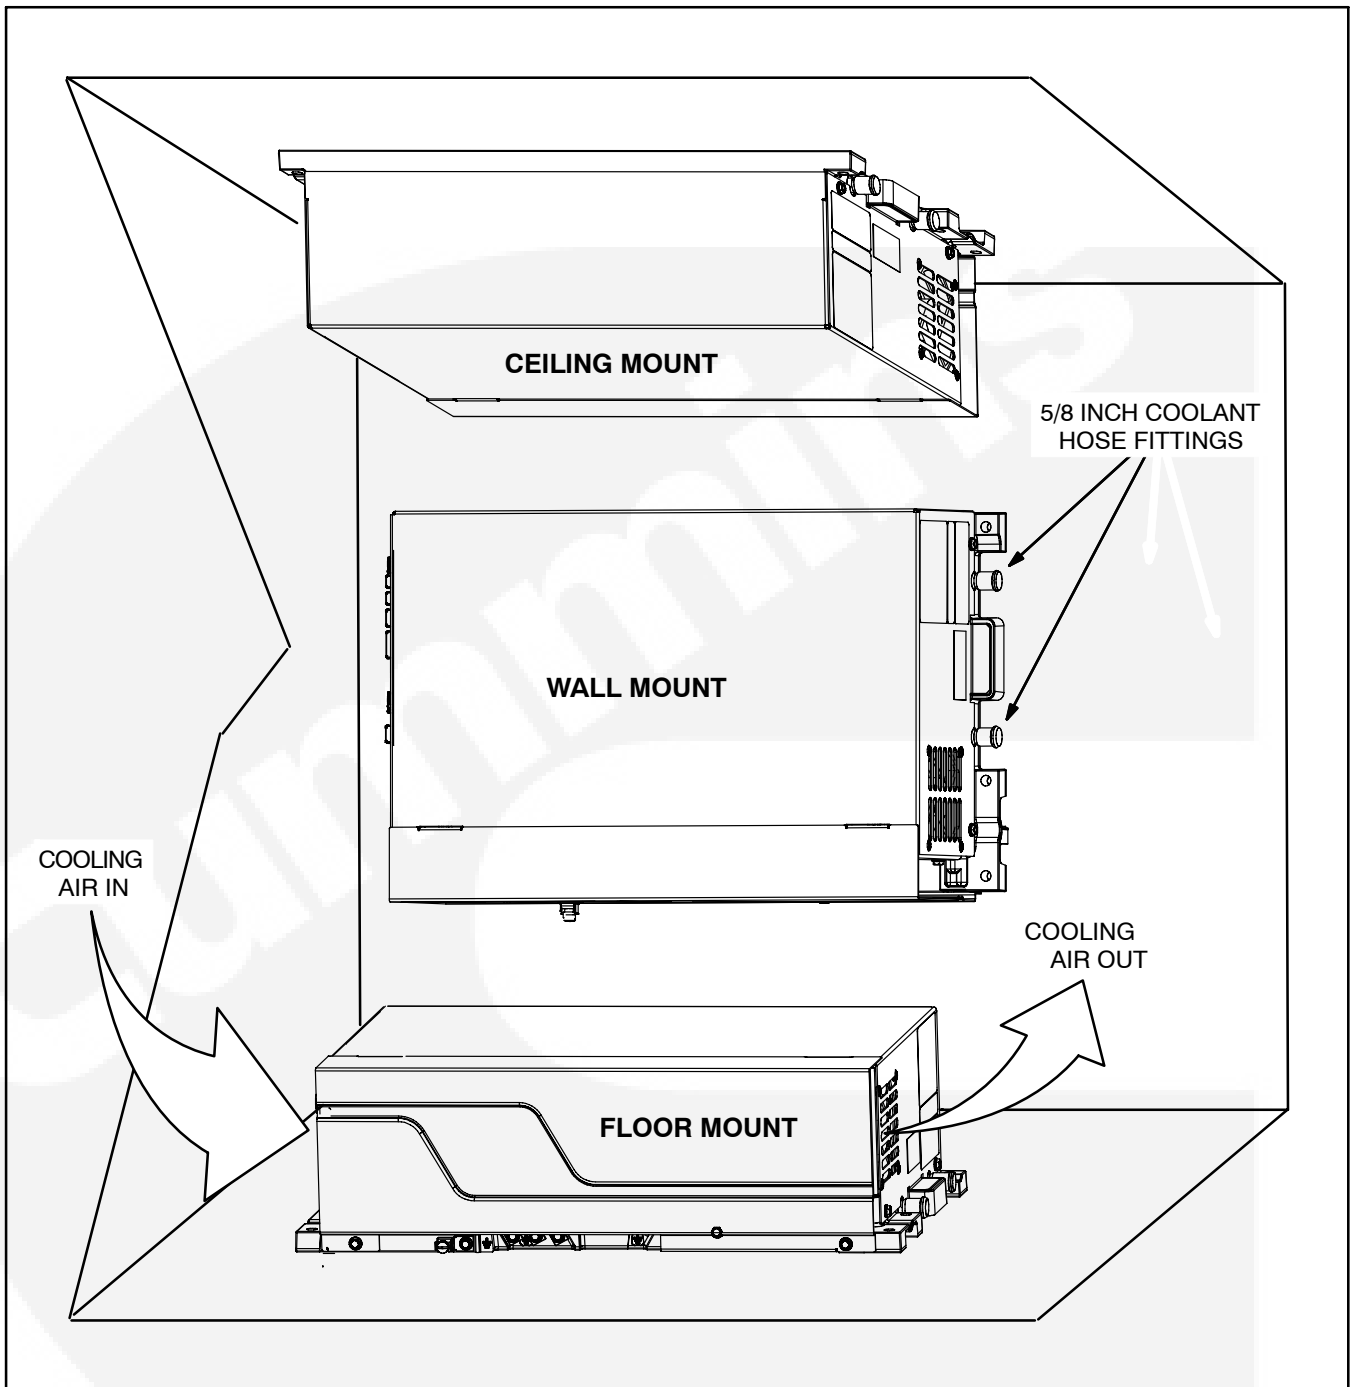

FIGURE 3-1. INVERTER/CHARGER—ACCEPTABLE MOUNTING POSITIONS AND ORIENTATIONS
6. When secured to a wall, the Inverter/Charger must be level and the coolant hose fittings must point to either side, not up or down. This is to prevent coolant from entering the electronic components inside the Inverter/Charger if there is a hose leak. Figure 3-1 illustrates acceptable mounting positions and orientations.